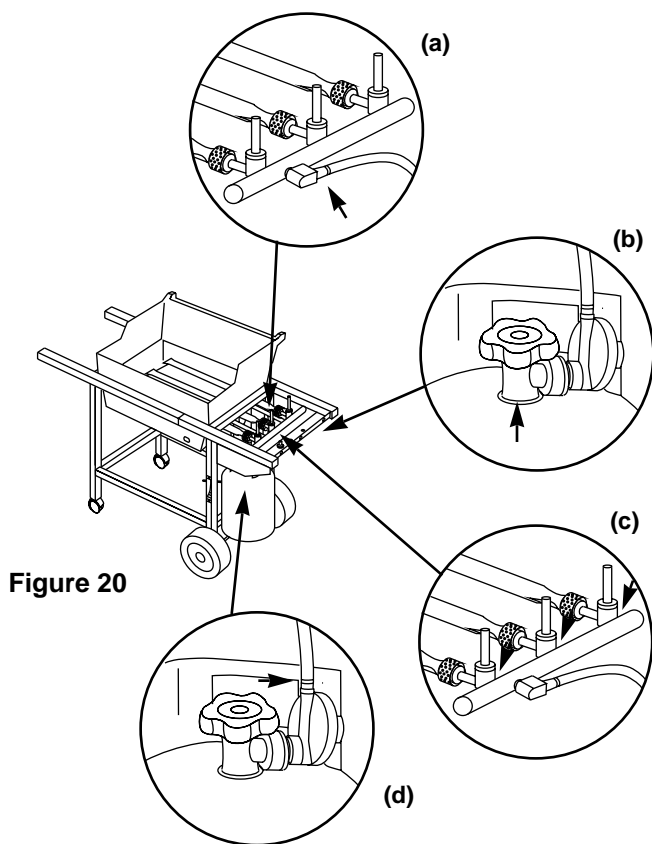

Figure 20
- a) Hose to manifold connection. Figure 20 (a).
- b) Regulator to tank connection. Figure 20 (b).
- c) Valves to manifold connections. Figure 20 (c).
- d) The hose to regulator connection. Figure 20 (d).